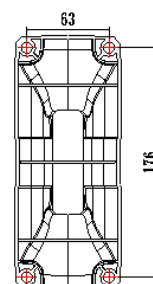

Fig.2
3. Take the mounting bracket as a template to mark the position for screws and drill four holes on the wall(Fig.2)